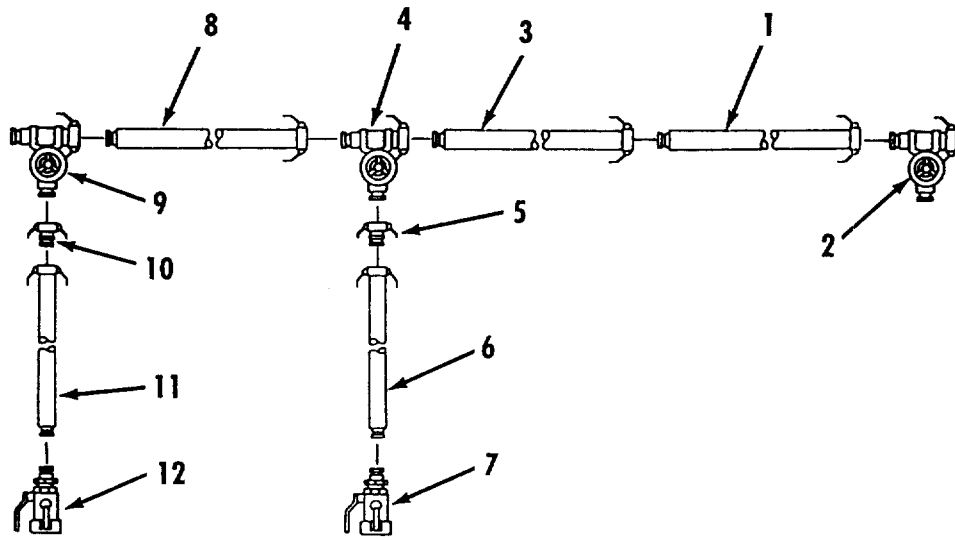

Figure 2-20. Fuel System - Bottom Loading Point to Drum Filling Points.
1. Fuel System Bottom Loading Point to Drum Filling Points. Refer to figure 2-20.